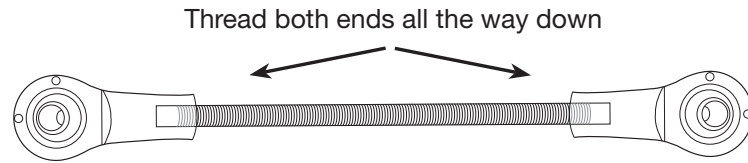

fig. 22
1. Locate the linkage and ensure the rod is threaded all the way on (fig. 22).